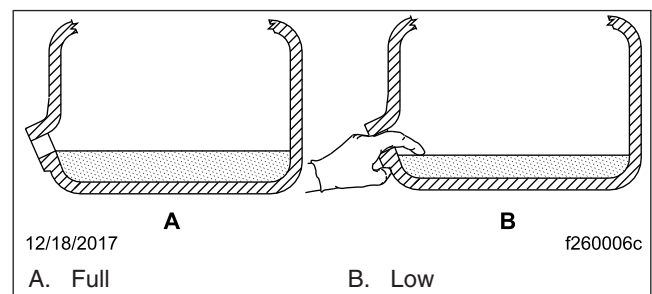

Fig. 2, Checking Transmission Fluid Level
5. Add fluid until it is level with the lower edge of the fill opening; see Fig. 2. See the Detroit Transmission Fluid Service Information brochure at <http://dtna.info/DT12FluidsManual>, for identifying the transmission type, estimated transmission fluid capacities, and applicable fluid specifications.
2. Using your finger or a bent pipe cleaner, see if the fluid is level with the fill opening. See Fig. 2.
6. Add fluid until it is level with the lower edge of the fill opening. See Fig. 2. If the transmission has two fill openings, add fluid to the level of both openings. See Table 1 for approved transmission lubricants, and Table 2 for transmission lubricant capacities.